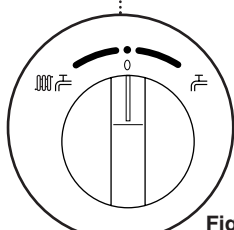

Fig. 15
2. **For longer periods:** Turn the selector switch to the OFF position (Fig. 15) and turn off the electricity and gas supplies.